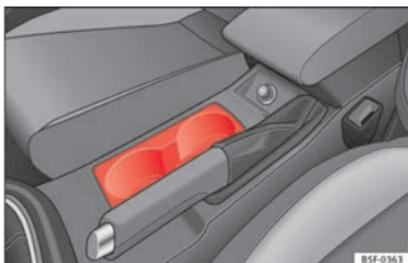

Fig. 115 Centre console: front drink holders.
- Place drinks in the holder »» **Fig. 115**. Placement of two drinks is possible. There is also the possibility of placing larger plastic bottles in the trims of the doors.